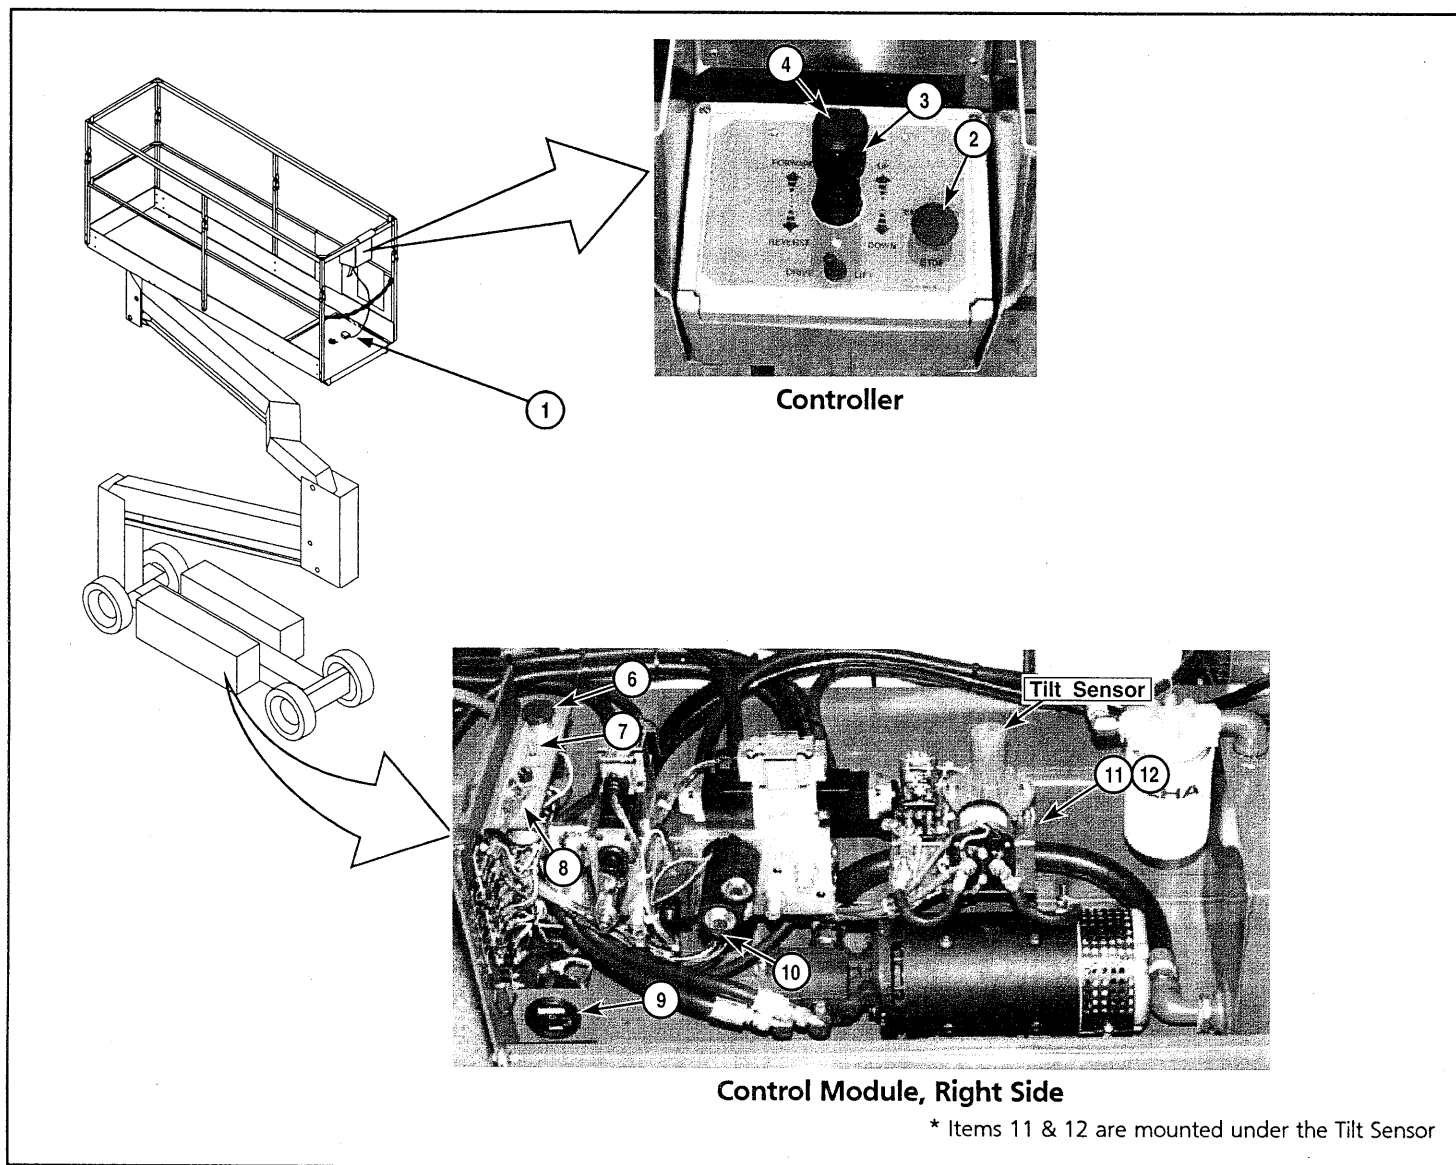

Figure 3-1: Controls and Indicators
The controls and indicators for operation of the SL-20D Series Work Platform is shown in Figure 3-1. The name and function of each control and indicator are listed in Table 3-1. The index numbers in the figure correspond to the index numbers in the table. **The operator should know the location of each control and indicator and have a thorough knowledge of the function and operation of each before attempting to operate the unit.**
8. Turn Chassis and Platform Emergency Stop Switches ON (Figure 3-1) by pulling the button out.
11. Turn the Chassis Key Switch (Figure 3-1) to **CHASSIS**.
12. Push Chassis Lift Switch (Figure 3-1) to **UP** position and fully elevate platform.
14. Check Level Sensor (Figure 3-1) operation by pushing the sensor off of level, the alarm should sound.
16. Open the Chassis Emergency Lowering Valve (Figure 3-1) to check for proper operation by pushing in on the knob and turning 1/4 turn counterclockwise. Once the platform is fully lowered, close the valve by pushing in on the knob and turning 1/4 turn clockwise until the detent engages.
The Emergency Lowering Valve is located on the front of the Manifold Assembly on the right side of the machine in the Control Module (see Figure 3-1).